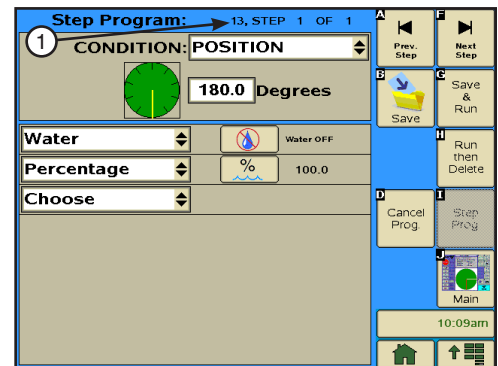

Figure 149-3 1. Step Program Identifier
5. Program the position condition for this step. Refer to Figure 149-3.